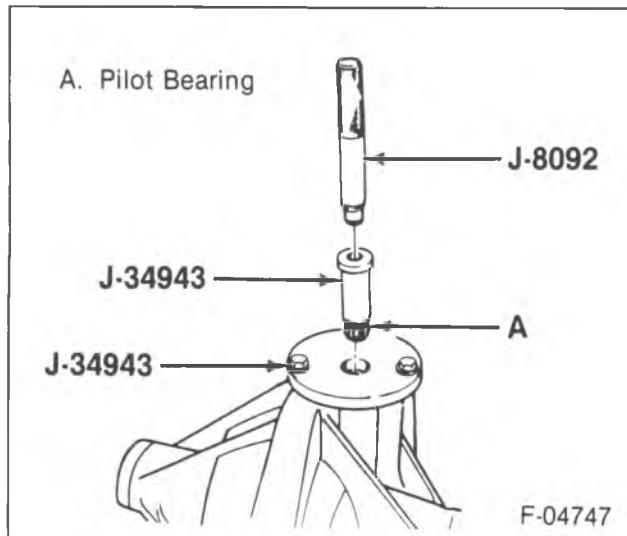

Figure 13—Installing the Pilot Bearing
1. Pinion pilot bearing (15) using J 34943 and J 8092 (figure 13).
- Place the bearing (15) onto the guide.
- Measure the pinion bearing shims (11). If a new pinion and ring gear set is installed, the pinion bearing shim pack must be adjusted.